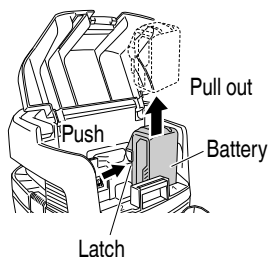

Fig. 10
5. Removing the battery (Fig. 10)